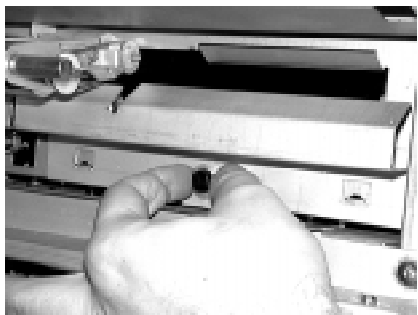

Figure 4-53 Attaching Plate
1. Attach the metal plate to the printer frame with the thumbscrew. Turn the thumbscrew clockwise several turns until it is snug. Do not overtighten. See Figure 4-53.